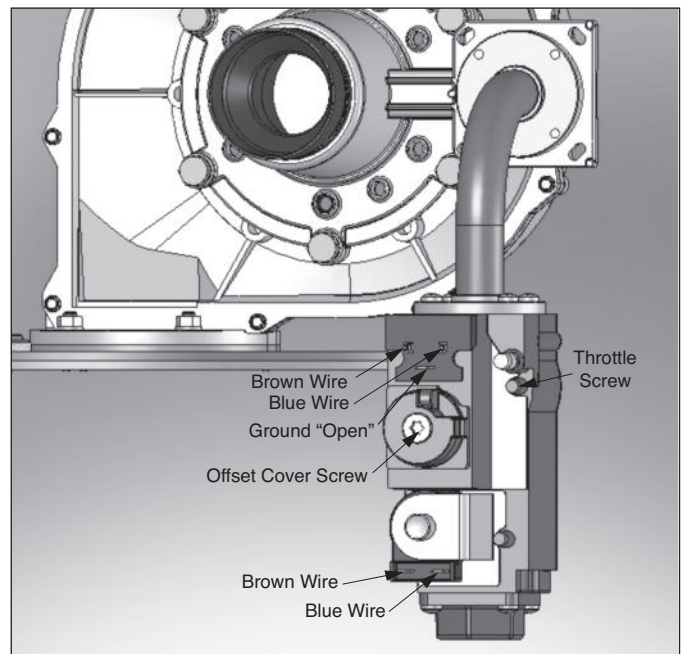

Fig. 3: Prestige 399 Gas Valve
16. Reconnect the wiring to the gas valve as shown in Fig. 3.
2. If the combustion levels during high fire is outside the recommended combustion settings in Table 2, adjust the THROTTLE SCREW (see Fig. 3) using a flat-blade screwdriver.
4. If the combustion levels (O₂ or CO₂) during low fire is not within +/- 0.2 of the combustion level measured at high fire, remove the offset cover screw and adjust the plastic OFFSET SCREW (see Fig 3) using a T-40 Torx wrench as follows:
6. If the combustion levels during high fire are outside the recommended combustion settings in Table 2, adjust the THROTTLE SCREW (see Fig. 3) using a flat-blade screwdriver.
8. If the combustion level (O₂ or CO₂) during low fire is not within +/-0.2 of the combustion level measured at high fire, remove the offset cover screw and adjust the plastic OFFSET SCREW (see Fig. 3) using a T-40 Torx wrench as follows: